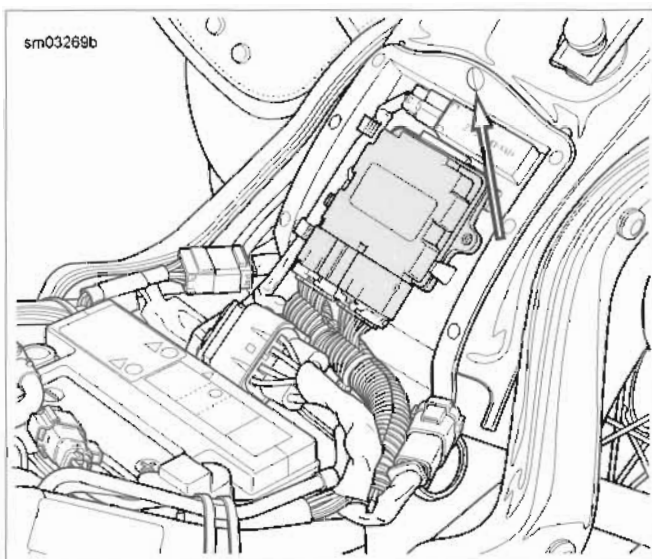
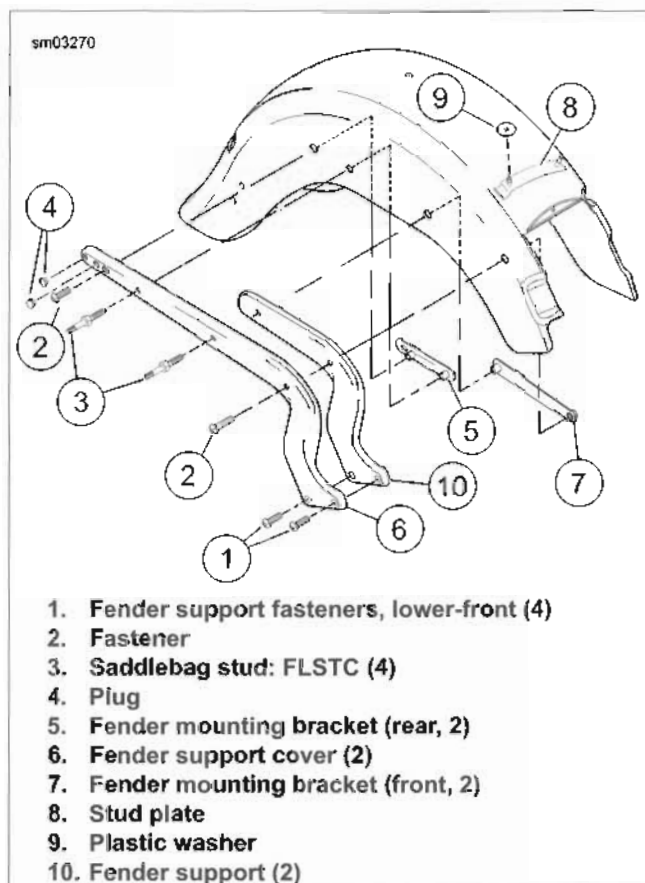

Figure 2-109. ECM Mount
Figure 2-110. Rear Fender: FLSTC
6. See Figure 2-109. Remove nylon fastener from electrical box.
7. See Figure 2-110. Remove fasteners (2) and saddlebag support studs (3) from front (7) and rear (5) fender mounting brackets.
2. See Figure 2-110. Carefully place the fender into position. Install fender supports using hardware shown.
- b. Tighten fasteners (1) to an initial torque of 30-35 ft-lbs (40.7-47.5 Nm).
- c. Loosen fasteners (1) and final-tighten to 38-42 ft-lbs (51.5-56.9 Nm).
4. See Figure 2-109. Install nylon fastener into electrical box and fender. Install saddlebags if equipped.